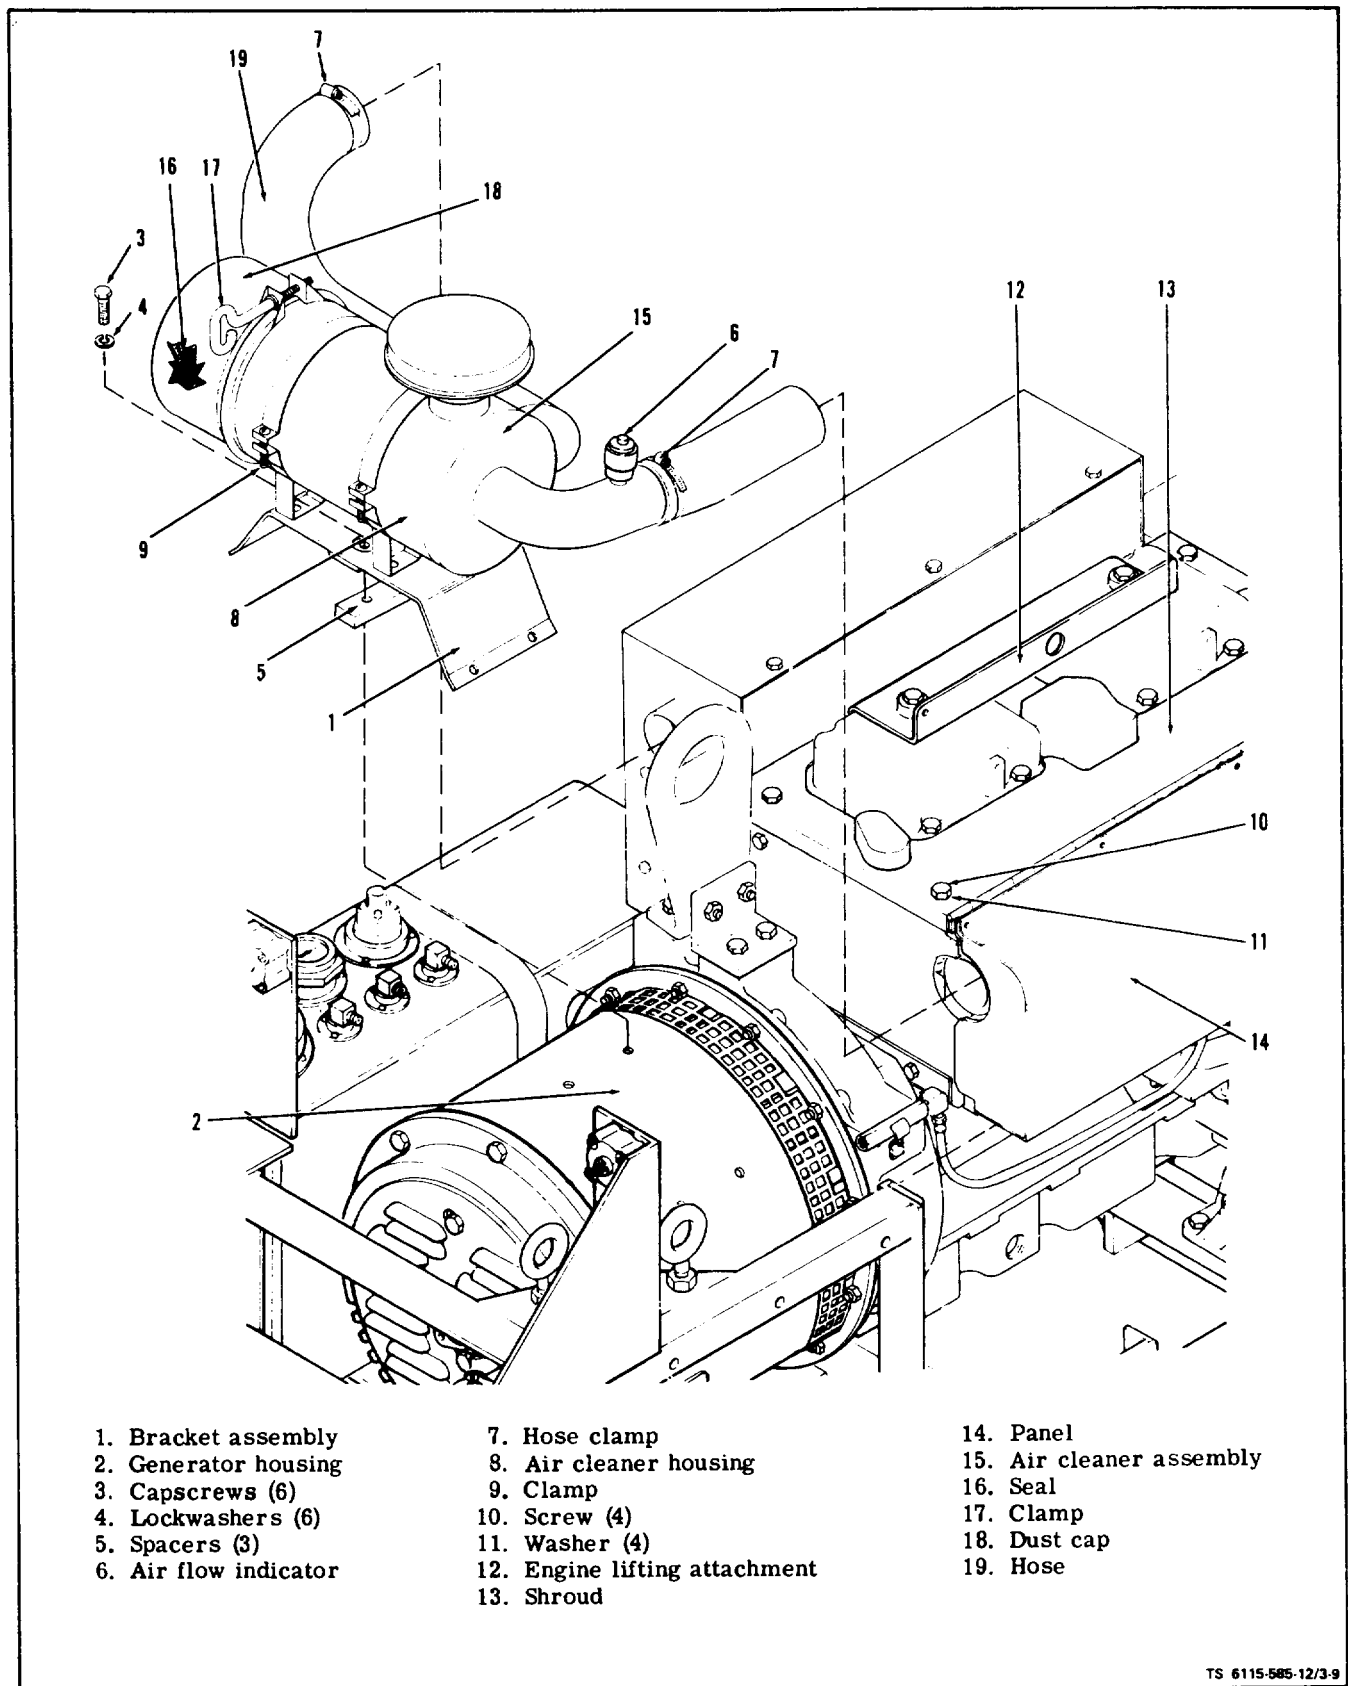

Figure 3-9. Air Cleaner and Shroud Assembly
a. Inspect on Equipment (see figure 3-9). On ASK equipped generators, open AIR INTAKE and AIR CLEANER access doors.
(1) Housing. Inspect housing (8) for dirt, grease, dents or other physical damage. Check to see that housing is securely attached to bracket assembly (1).